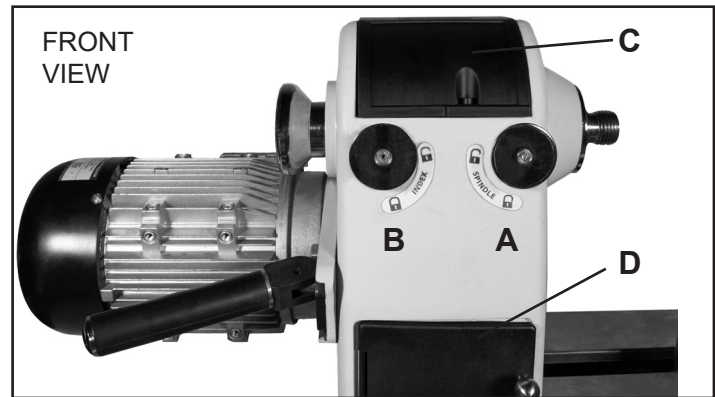

FIG. 13
NOTE: The Faceplate (S) may be shipped pre-installed on the headstock spindle. If plate or bowl turning is to be done, then the use of the faceplate is needed. To remove the faceplate, loosen the two set screws in the rear hub of the faceplate with the 3mm hex wrench. Then unscrew it from the spindle (counter-clockwise rotation) using the two large 38/46mm wrenches (N) or one wrench while using the Spindle Lock (see page 13, Fig. 13,A).
A. SPINDLE LOCK CONTROLS (FIG. 13, A) secures the headstock spindle for the mounting or removal of faceplates or chucks. To operate, simply rotate the knob which will insert its rear pin into one of the 4 holes in the Spindle Lock Disc (Fig. 16, E). Rotate the knob back in the opposite direction to unlock the spindle to resume work.
B. SPINDLE INDEXING CONTROLS: (FIG. 13, B) The Index Pin Assembly is used to hold and position the spindle for making accurate, spaced pattern work on projects such as straight fluting, grooving, drilling, detail carving, wood burning patterns and laying out designs and more.
C. HEADSTOCK DOORS: (FIG. 13, C & D) Lift upper door/lid 'C' for access to the spindle drive & index pulley, RPM reader and spindle lock assemblies (FIG. 16). Open door 'D' to access the motor drive pulley (page 18, Fig. 31).